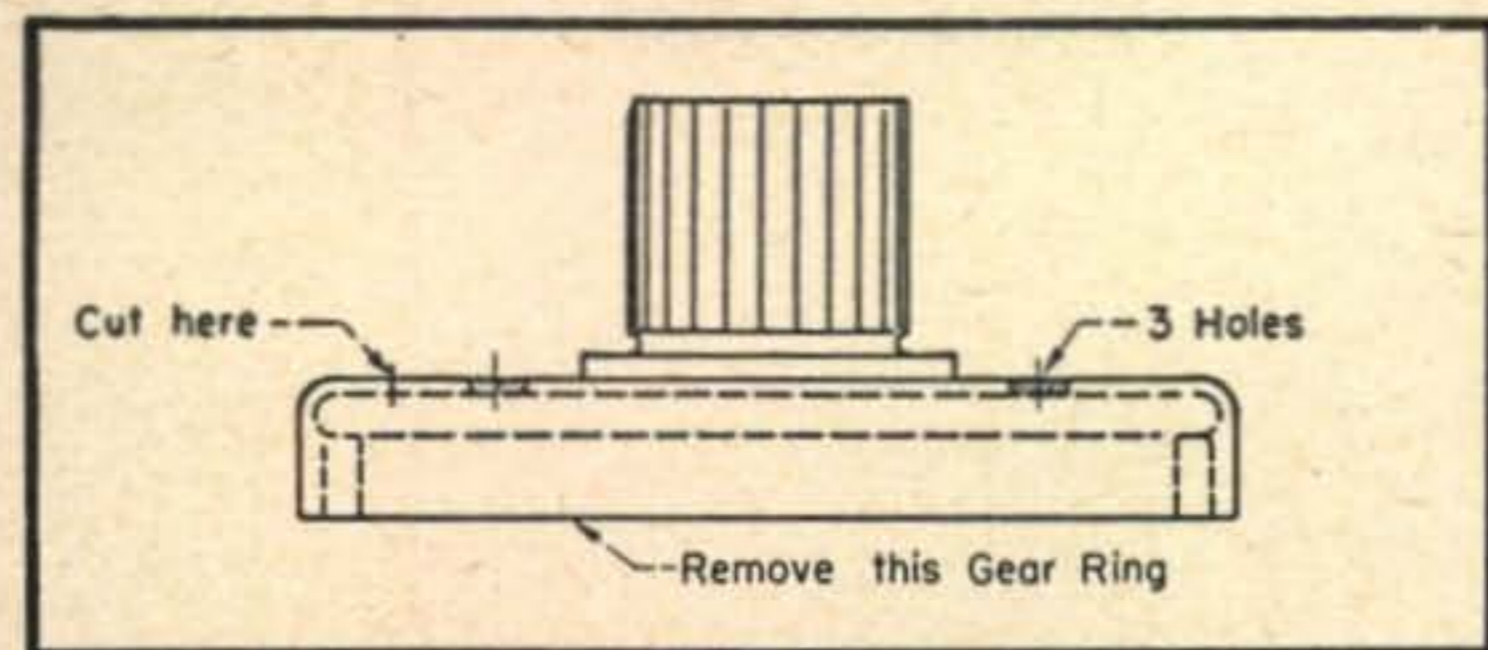
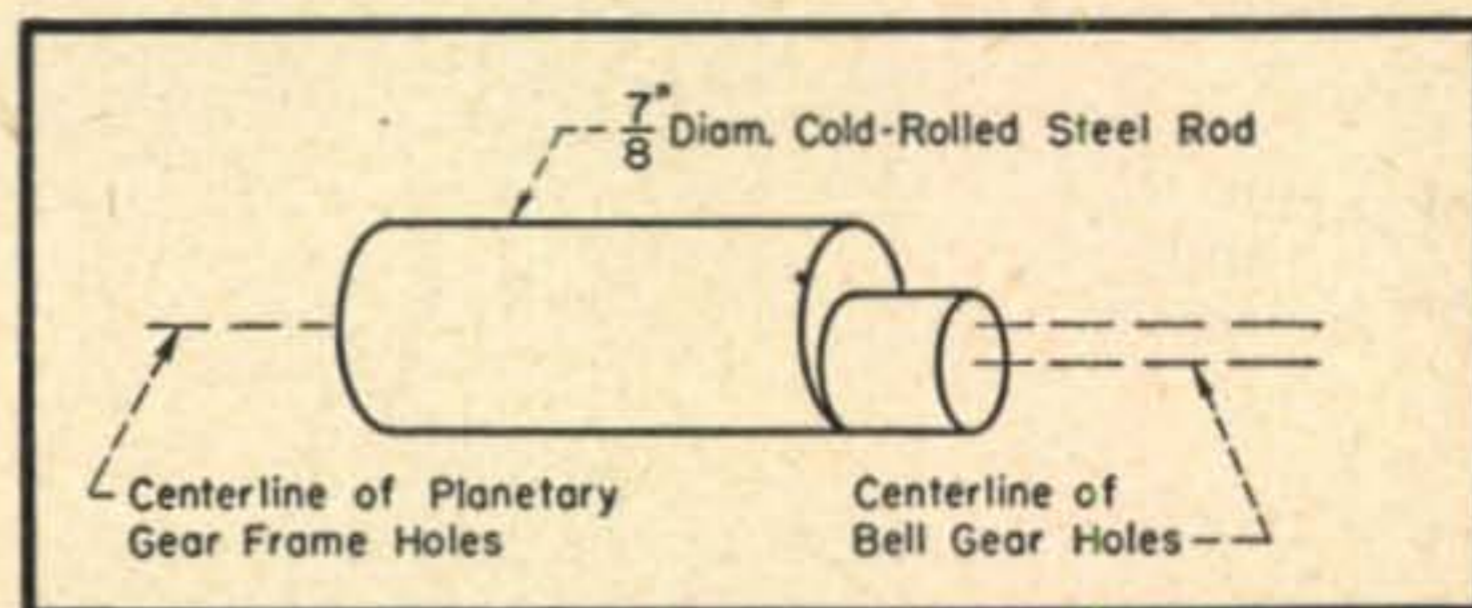

Fig. 5. The modification of the bell gear in the prop pitch motor.
Fig. 6. Off-center pins are needed for the bell gear, as explained in the text.
Dick chucks the bell gear (M) in a lathe and cuts the internal gear off just *inside* the ring of holes encircling the gear. I suggest that you cut the teeth off just *outside* these holes, say $\frac{1}{4}$ " away, thus leaving the ring of holes on the center section of the bell gear (Fig. 5). Now, if the bell gear is dropped over the differential gear, it will be seen that the three large $\frac{7}{8}$ " holes in the differential gear fall in axial alignment with the holes drilled in the bell gear. Three special off-center pins can be turned easily in a lathe that will engage the three holes in the bell gear with those in the differential gear (Fig. 6). The three pins may be fastened to the differential gear by means of $\frac{1}{4}$ "-28 bolts tapped through the side wall of the gear frame. The bell gear will now drop over these off-center pins and provide a very strong power transfer. The danger of using common bolts at this point is that there is a tendency for the bolts to work loose in the soft aluminum of the differential gear. These special pins solve this problem very nicely. Since you need a lathe to cut the bell gear, anyway, you might as well turn out the pins and do the job up brown. Right?